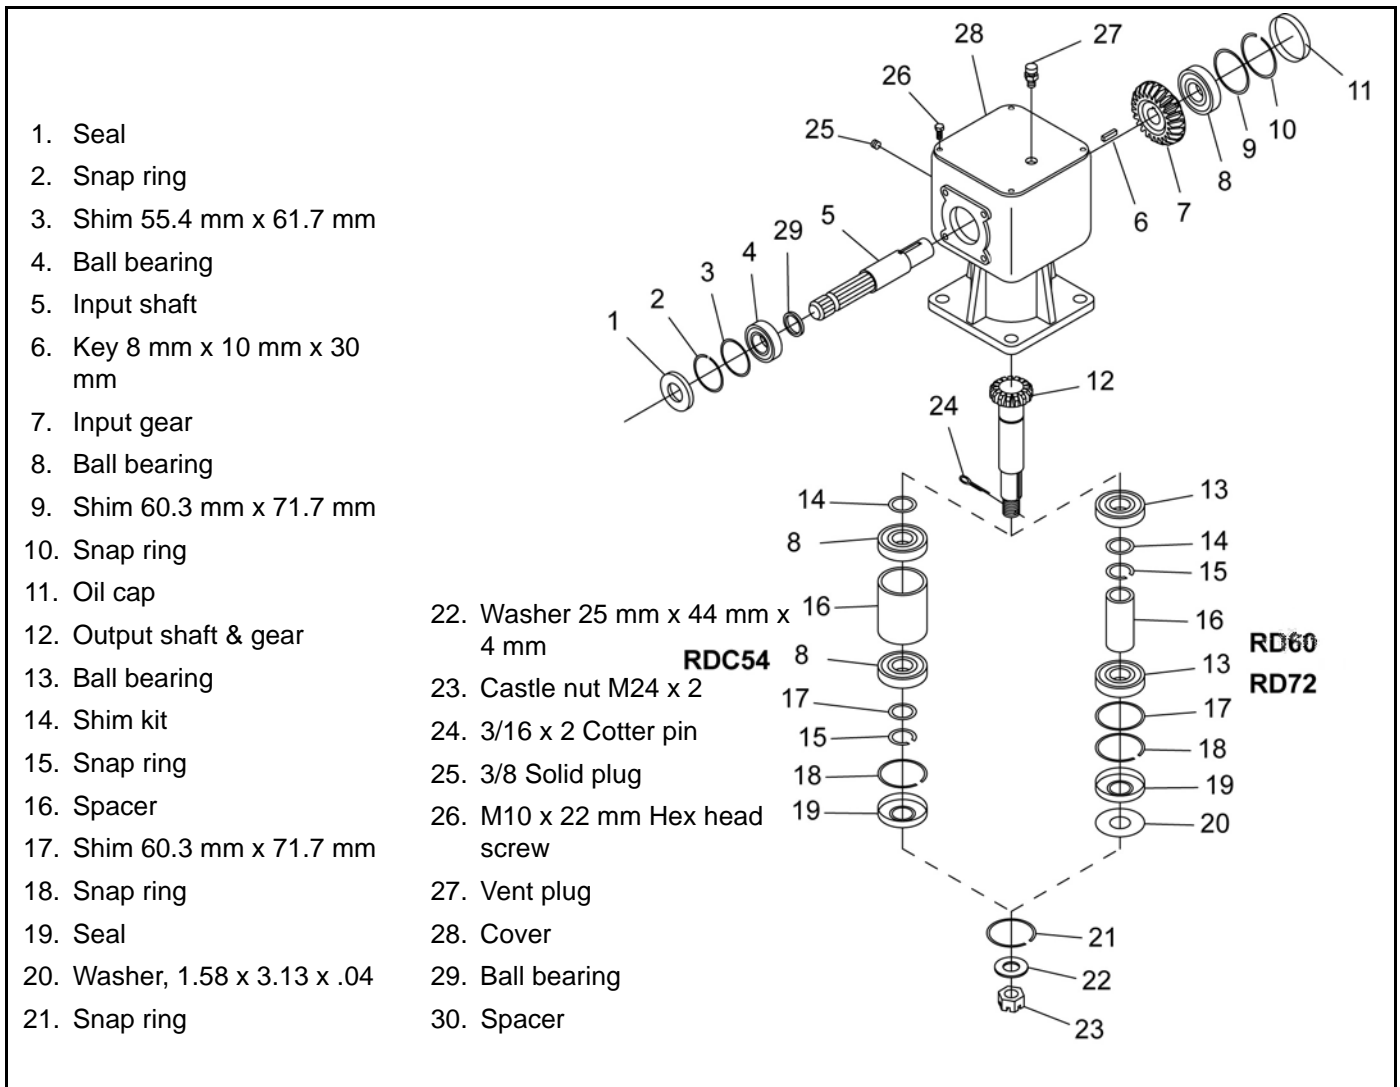

Figure 16. Gearbox Assembly
2. Remove vent plug (27), Figure 16, and siphon gear lube from housing through this opening.
3. If the leak occurred at either end of horizontal shaft, remove oil cap (11) and/or oil seal (1). Replace with new one (see Seal Replacement, page 22).
1. Remove top cover (28), Figure 16, from housing. Turn gearbox upside down and pour out remaining gear oil from gearbox.
2. Remove oil cap (11) (to be replaced).
3. Remove snap ring (10) and shim (9) from input shaft (5).
4. Support gearbox in hand press and push on input shaft (5) to remove bearing (8).
5. Remove gear (7) from inside housing.
6. Remove oil seal (1) from front of housing (to be replaced).
7. Remove snap ring (2) and shim (3) from front of housing.
8. Remove input bearing (4) by using a punch and hammer from outside of housing.
10. The castle nut (23) and cotter pin (24) are already removed with the drive sheave. Remove the snap ring (18), washer (20), and seal (19).
11. Remove output shaft (12) and bearings by using a punch and hammer and tap on top to drive down.
Refer to Figure 16.